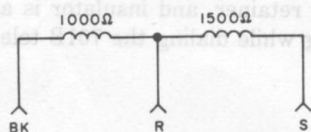

Fig. 6—Schematic For 1610A or 1635A Inductor
3.08 Refer to Fig. 6 for inductor schematic.